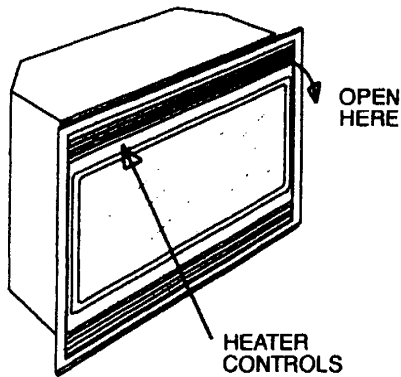

FIGURE 8
1. To access the controls, open the upper grille by pulling, near the top right hand side, forward and down.(FIGURE 8)